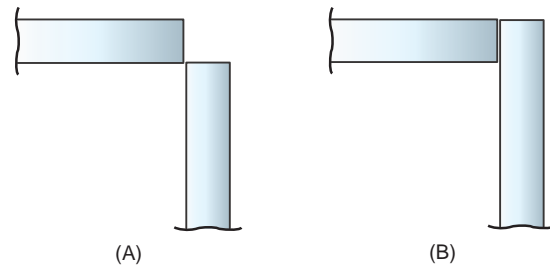

FIGURE 5-2 Two ways of fitting up an outside corner joint. © Cengage Learning 2012
- **Outside corner joint**—In an **outside corner joint**, the edges of the metal are brought together at an angle, usually around 90° to each other. The edges can meet at the corner evenly or they can overlap, Figure 5-2. The outside corner joint can be welded on both sides, with the outside being made as a groove weld and the inside as a fillet weld.